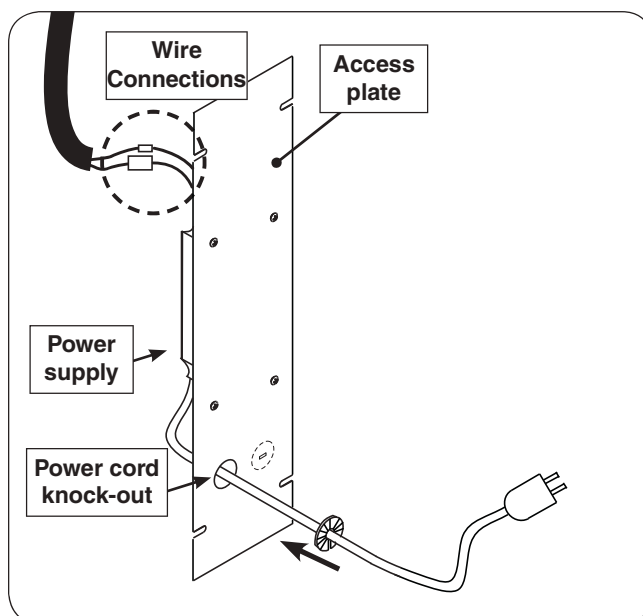

Fig. 17-1 Access plate view & orientation
A power supply is pre-mounted to the access plate. For ease of installation, disconnect the power supply from the wire harness extension. Locate the wires coming from the inside of the post to the power supply and carefully disconnect (see Fig. 17-1 and 17-2).
4. Install the bushing onto the power cord and slide the bushing up against the access plate knock-out hole and snap into place. See Fig. 17-1.